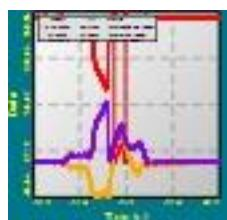

Fig. 4.12. The Real Time Data Graphs icon in the IMU Visualization window of the IMU GUI
- **Real Time Data Graphs** – visualization style shown in Fig. 4.12 (see below for details).
The Real Time Data Graphs style of visualization is the most used method of visualization. It can be used for all output data formats supported in the IMU GUI. After starting the unit, this feature is used by right-clicking in the plot area and selecting which data should be shown in the plot area. Available data shown in graphs is limited and dependent on the output data format that is being used. To use this visualization option, click on the icon that is shown in Fig. 4.12. See Section 5 for details on output data formats.